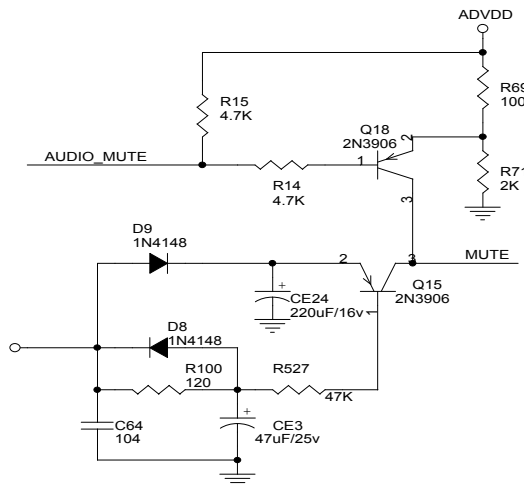

Figure 3.2.11.1 Mute circuit
1. Mute circuit is shown as in the figure 3.2.11.1:
When the player is working normally, shown in the figure 3.2.11.1, MT1389L outputs analog audio signal, and a low level signal to MUTE-DAC at the same time to make Q18 on, B electrode of Q18 is about 2.7V, collector electrode of Q18 is about 3.3V, so Q15 is also on, voltage of B electrode is about 0.7V, voltage of Q15E electrode is near to zero, MUTE—1 is negative voltage, which is added to base electrode of mute tube of audio output end to make mute tube cut off, and audio signal outputs after being amplified by 4558. When pressing MUTE button on remote controller, MT1389 has no audio signal that outputs to operational amplifier, so audio output end of the player has no audio signal output, but because electronic elements in circuit will produce some noise when working that transmits to output end of the player, in order to filter there noise, decode chip outputs a high level signal to MUTE-DAC to make Q18 cut off, so Q15 cuts off, +5V power is transmitted to base electrode of switch pipe Q8~Q10 through EC electrode of Q15, mute circuit is in mute state.
As shown in the figure 3.2.11.1, when the player is working normally, D9 is on, +5V charges capacitor CE24 through D8, now emitter voltage of Q15 is less than base electrode voltage, Q18 cuts off. When power off, VCC disappears, Q15 base electrode changes into low level, its emitter electrode changes into high level because of discharge, now Q15 is on, Q15 collector electrode (MUTE-OUT) outputs high level to add to base electrode of switch pip Q8-Q10, switch pipe is saturated, noise produces in the course of power off is bypassed to ground, and power-off quieting function is realized.